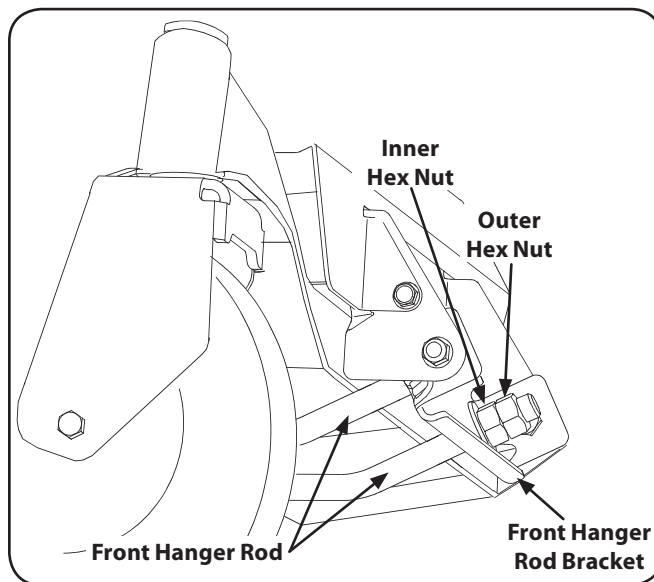

Figure 6-5
5. From the front of the tractor, loosen the outer hex nuts on the deck front hanger rod and turn them away from the inner nuts. Refer to Fig. 6-5.
6. If the front of the deck was too low, turn the inner hex nuts clockwise against the hanger bracket to shorten the front hanger rod and raise the front of the deck. Refer to Fig. 6-5.